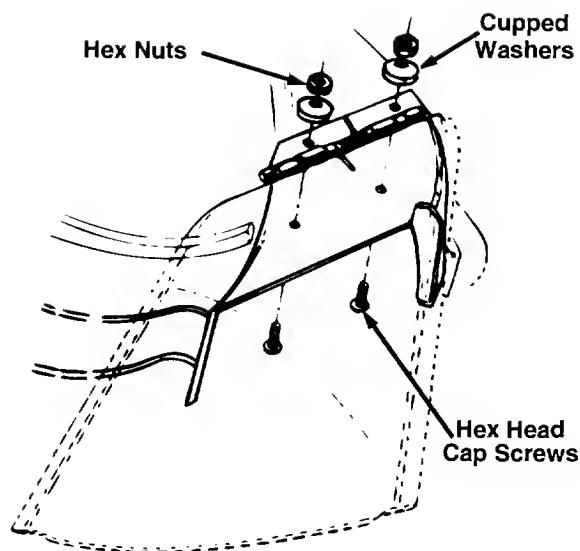

Figure 7
3. Place the chute deflector in position as shown in Figure 7. Secure with hardware just removed. Cupped sides of washers go against the chute deflector.